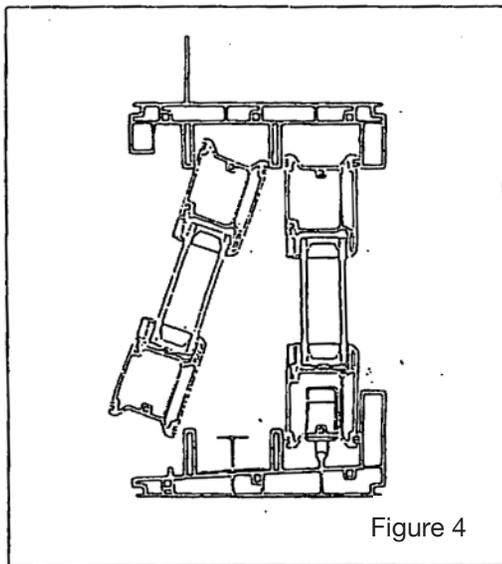

Figure 4
B. Installing the Fixed Panel (Figure 4)